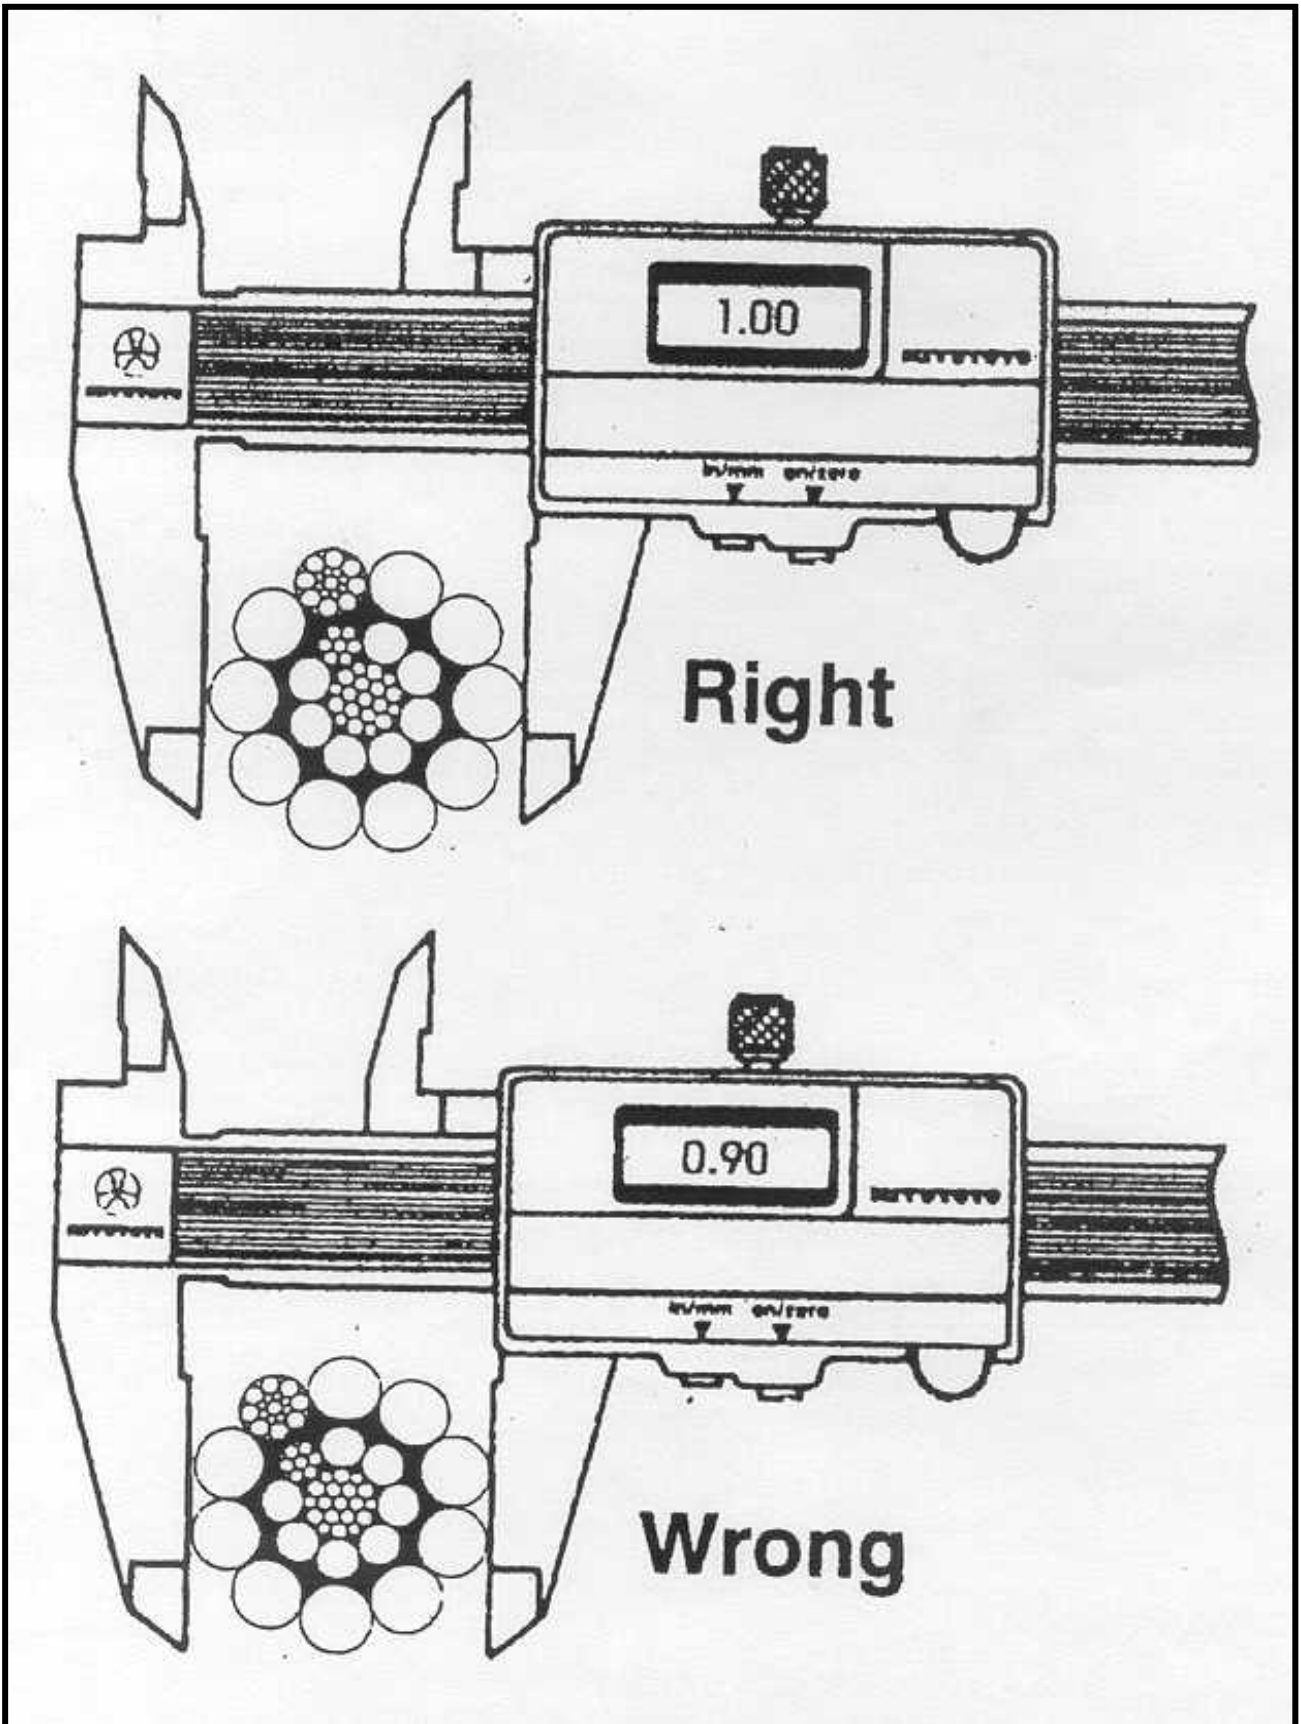

Figure 6-E Proper method of measuring rope diameter
Reduction from rope diameter in a non-working area (an area away from the sheaves) compared to the lowest diameter of rope measured in three (3) working areas (areas where the rope regularly goes over a sheave) of more than 6% is observed. See *Figure 6-E* for proper method of measuring rope diameters.